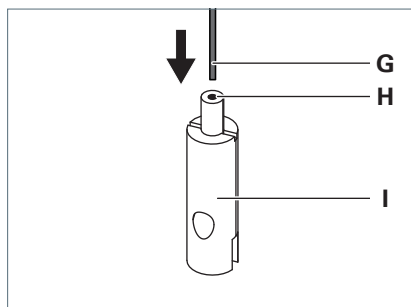

Fig. 4: Mounting the wire rope holder.
- Guide the wire rope **G** through the guide bushing **H** of the wire rope holder **I**, see Fig. 4.